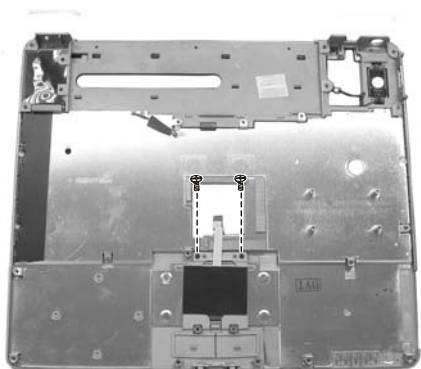

Figure 2-35 Remove the touch pad button
2. Remove the two screws to lift up the touchpad button. (Figure 2-35)